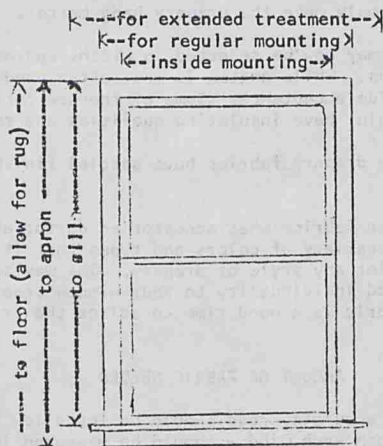

Figure 1
1. Measure the finished length of the drapery. Fig. 1